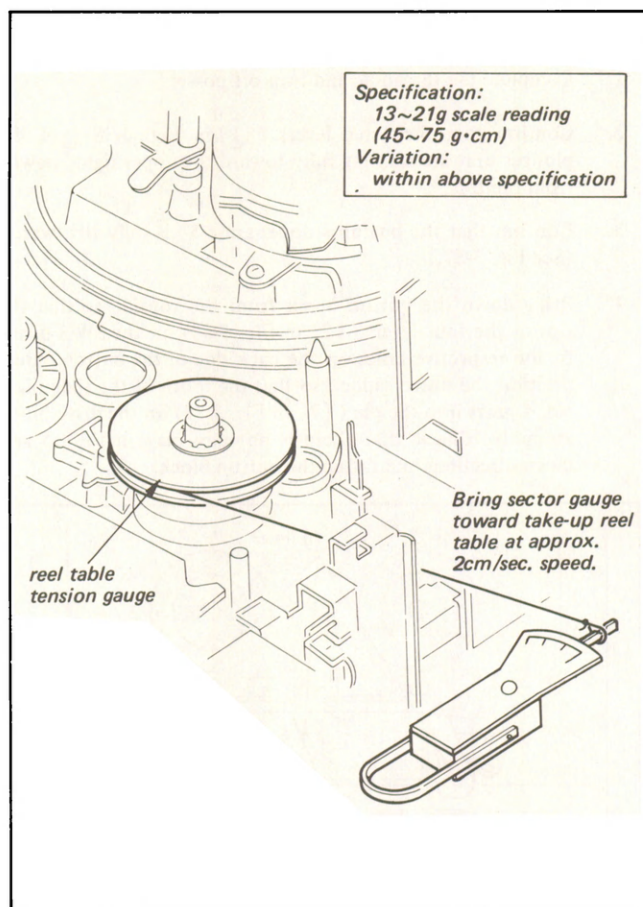

Fig. 3-41. Check of cassette eject torque
- Attach the reel table tension gauge (Tool Kit Ref. No. J-4) as shown in Fig. 3-41.)
- Bring the sector type gauge toward the take-up reel table at a speed of approx. 2cm/sec. during the unthreading as shown in Fig. 3-41. Confirm that the gauge reading is within the specification. If not, replace the E limiter assembly (X-3659-301-0) of the threading unit section and make the confirmation again.